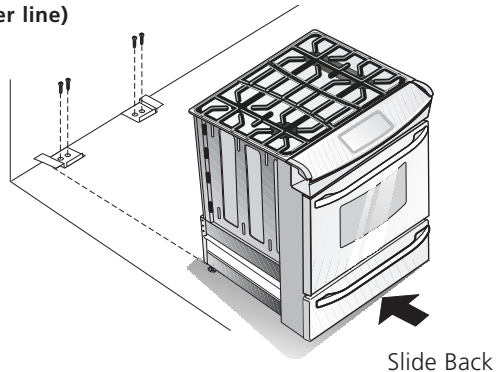

Figure 13
1. Unfold paper template and place it flat on the floor with the back and side edges positioned exactly where the back and sides of range will be located when installed. (Use the diagram below to locate brackets if template is not available. (Figure 13))